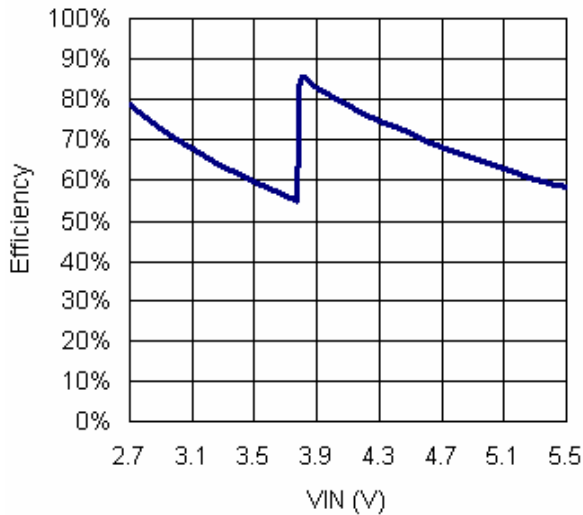

Figure 7. Efficiency vs VIN
Figure 7 shows the efficiency of the EUP2794. The change in efficiency shown by the graph comes from the transition from Pass Mode to a gain of 1.5. Efficiency (E) of the EUP2794 is defined here as the ratio of the power consumed by LEDs (P_{LED}) to the power drawn from the input source (P_{IN}). In the equations below, I_Q is the quiescent current of the EUP2794, I_{LED} is the current flowing through one LED, V_{LED} is the forward voltage at that LED current, and N is the number of LEDs connected to the regulated current outputs. In the input power calculation, the 1.5 represents the switched capacitor gain configuration of the EUP2794.